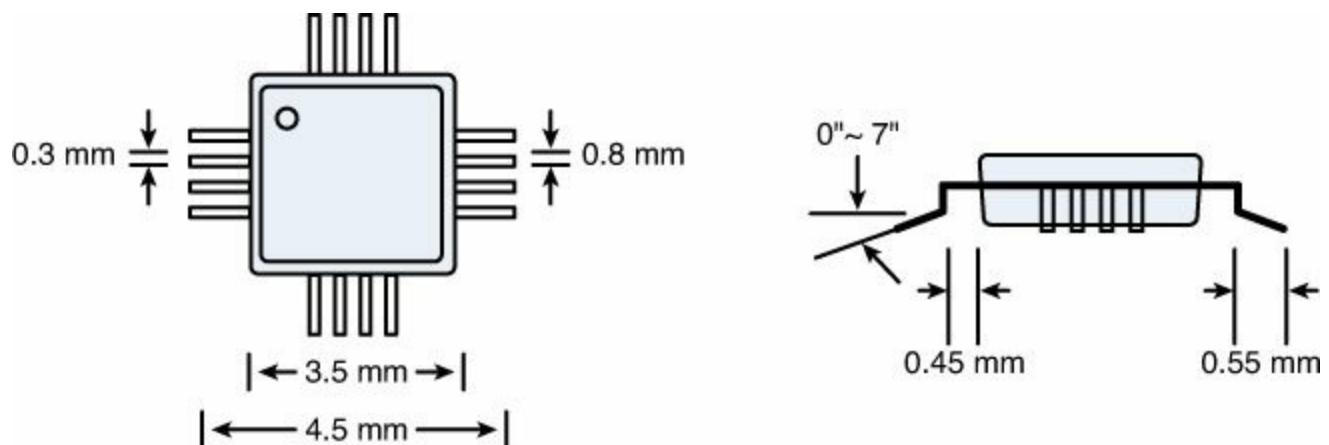

Figure 8.4: The 16-LeadThin Quad Flat Package
Now that the symbol is complete, the next step is to draw a package for the example device. A quad flat package (QFP) is a package for integrated circuits whose surface mount leads extend on all four sides. A common variant of the QFP is the thin quad flat package, or TQFP, whose profile isn't as thick. Most TQFP devices have between 32 and 256 leads, but our example SIMPLE-TQFP device has 16 leads with 4 on each side. Figure 8.4 shows what the actual device looks like.
1. As shown in Figure 8.4, the dimensions of the package body are 3.5 x 3.5mm. To draw this in the editor, the grid spacing should be set to one-half the minimum dimension, or 1.75mm. Select the Grid tool, set the dimension to mm and the size to 1.75. Click OK and the grid marks will be spaced 1.75mm apart.
In deciding on the size of the pads, there are two constraints: the pads must touch the device's leads and they must not come in contact with one another. As shown in Figure 8.4, the leads are 0.35mm wide and their centers are spaced 0.8mm away from one another. Therefore, a suitable pad width should be around 0.5mm.
1. As shown in Figure 8.4, the leads of the device are spaced 0.8mm apart, so the grid spacing should be set to 0.4mm. To configure this, select the Grid item in the toolbar, set the dimension to mm, and set size to 0.4. You may also want to set the alternative grid spacing to 0.04mm.